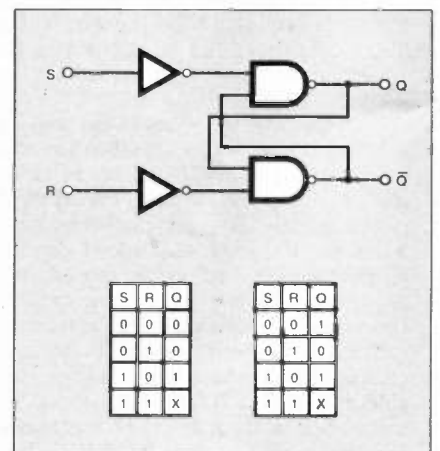

Fig. 4. Gate level implementation.
Taking the S-R (Set-Reset, not stimulus-response!) of the flip-flop which forms part 4 of the circuit, the gate level implementation is shown in Fig. 4. This can be analysed by considering it as having two
The first of the two Truth Tables in Fig. 4 is for the flip-flop initially in the reset state. Consequently, the reset (R) input has no effect, change only taking place when the set input is true, changing the flip-flop to the Set state.
The second Truth Table in Fig. 4 shows the situation when the flip-flop is set. Here, the set (S) input has no further effect, change only taking place when the Reset input is true.